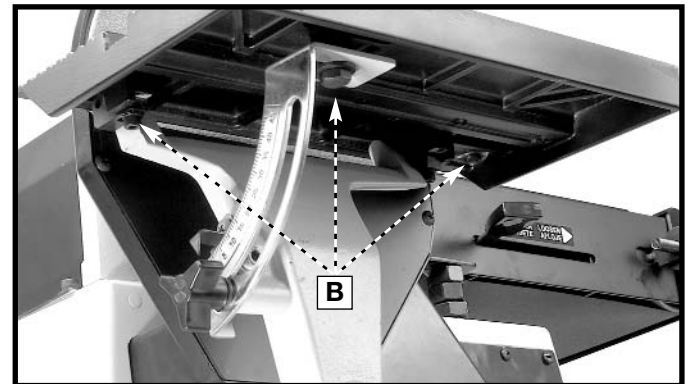

Fig. 28
2. To adjust, loosen the three screws (B) Fig. 28, adjust the table, and tighten three screws (B).